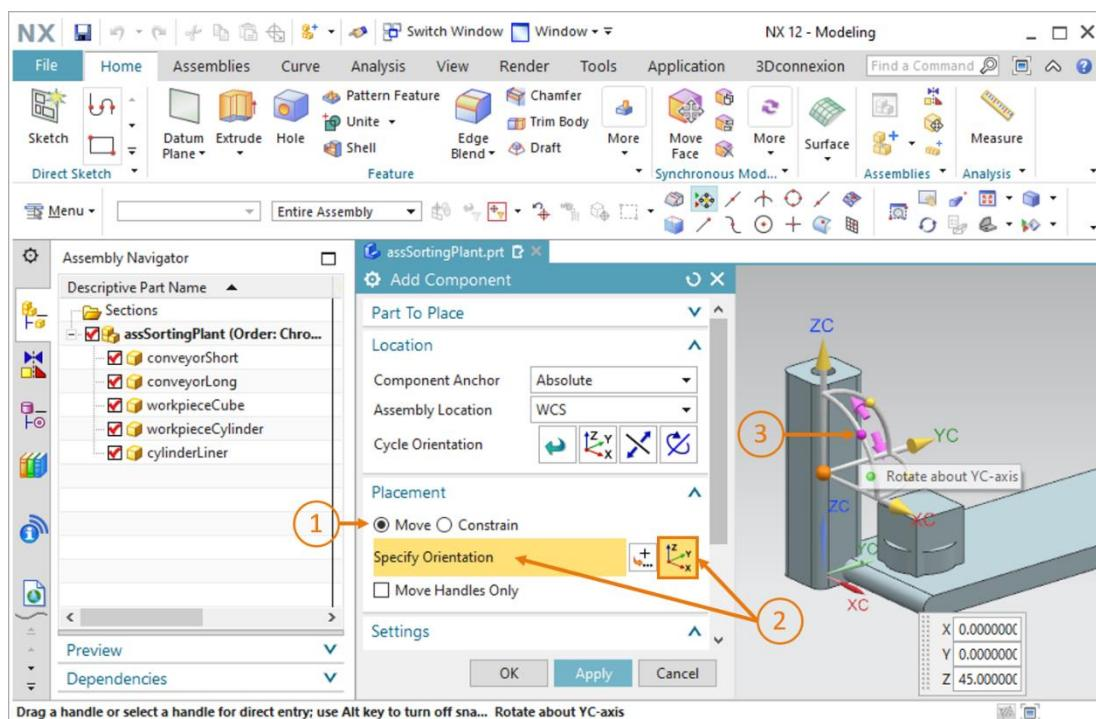

Figure 60: Rotating the "cylinderLiner" component – Selecting the axis
- You can see here that the base is perpendicular to the transport surfaces. In this position, the thrust cylinder cannot eject any workpieces. Therefore, you should start by rotating the component. First, similar to the action in Chapter 7.2.2, select the "Move" method in the "Placement" submenu of the "Add Component" window (see Figure 60, step 1) and click on "Specify Orientation" (see Figure 60, step 2). For changing the orientation, first select the point between the X and Z axis in the three-dimensional graphics window, as shown in Figure 60, step 3. This allows you to rotate the component around the Y axis.